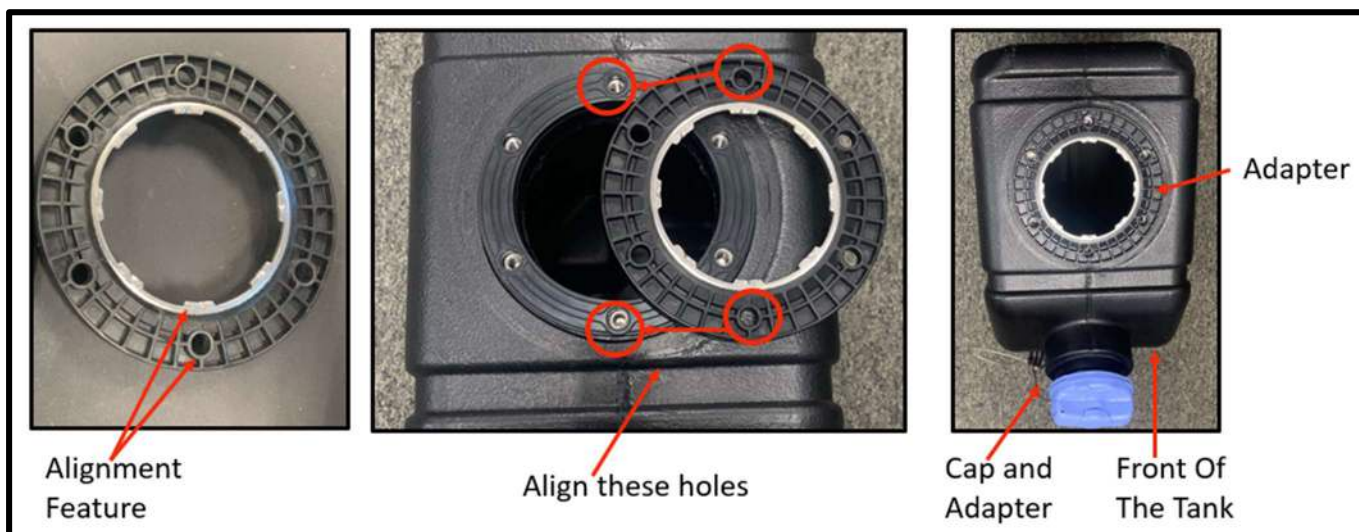

Figure 2.4 Adapter Alignment Feature
- 2) Identify the alignment feature (Notch and hole) on the adapter and install the adapter onto the gasket by positioning the adapter alignment feature as shown in **Figure 2.4**